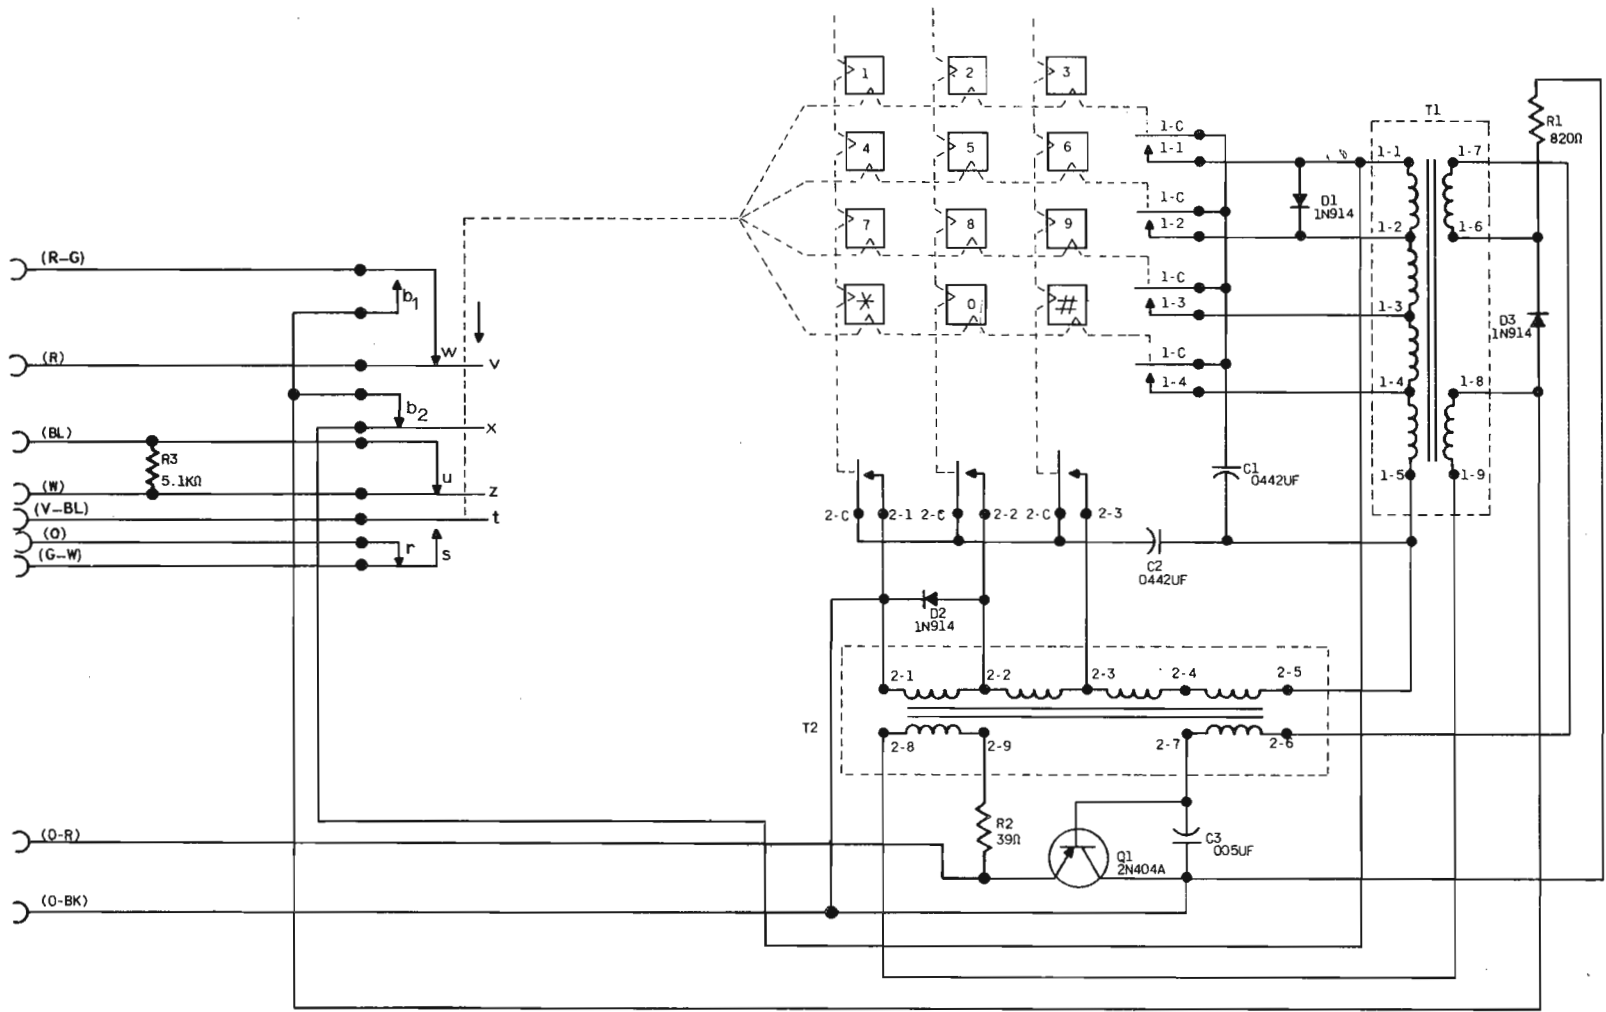

Fig. 19 - NE-35Q3K1 Dial Schematic
- Fig. 19 – NE-35Q3K1 Dial Schematic